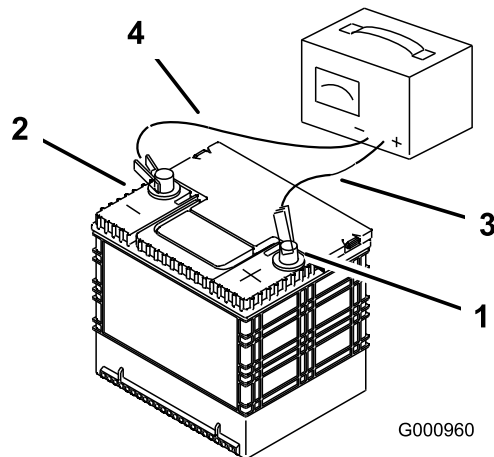

Figure 67
3. When the battery is fully charged, unplug the charger from the electrical outlet, then disconnect the charger leads from the battery posts (Figure 67).